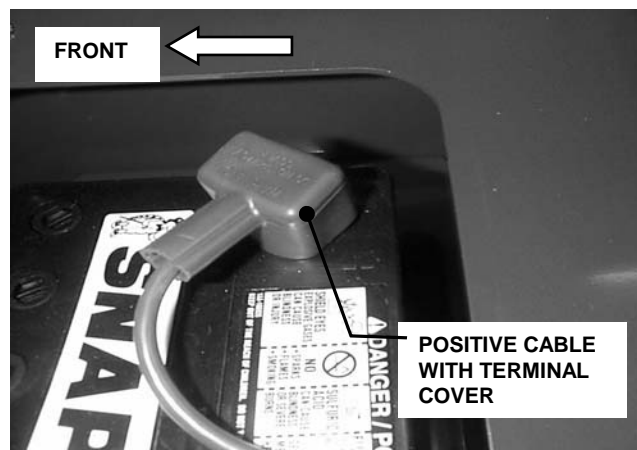

FIGURE 4.15
2. Connect positive (+) cable (red) first, from wiring harness to the positive terminal (+) on battery using bolt and nut. See Figures 4.15